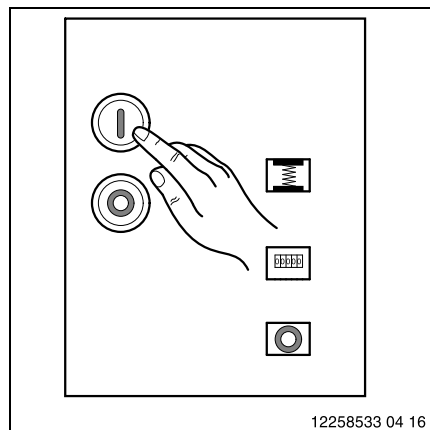

Fig. 52
**9** Switch the circuit-breaker ON. To do this, press the pushbutton ON (I) on the circuit-breaker control panel (Fig. 52). The spring accumulator indicator jumps to RELAXED.